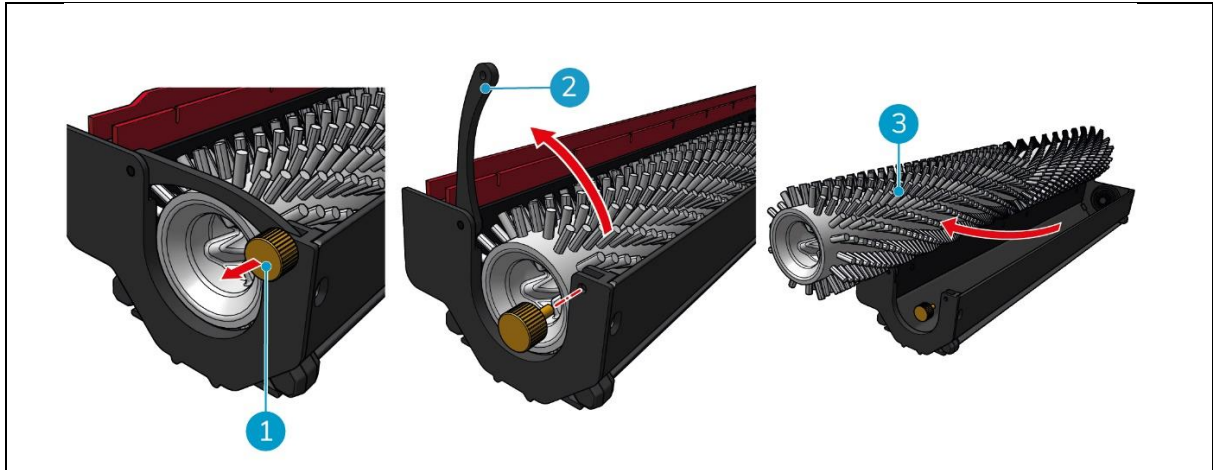

Figure 36
2. Remove the screw (Figure 36, pos. 1) by turning it counterclockwise and gently open the lever (Figure 36, pos. 2).
3. Remove the roller brush (Figure 36, pos. 3) from the holder for thorough cleaning purposes or replacement with a new one.